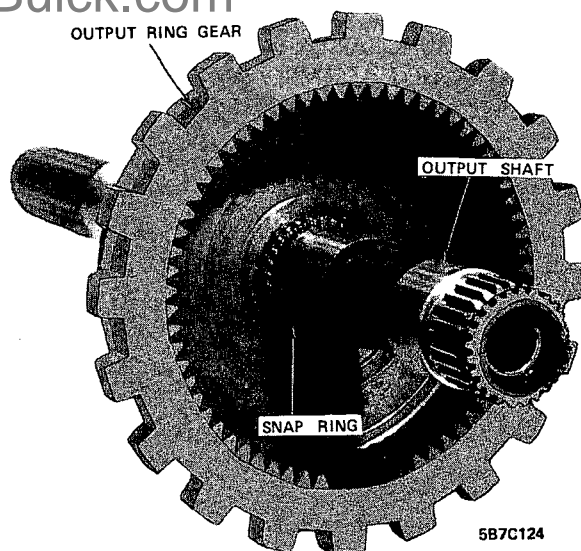

Figure 7C-66
4. Remove output ring gear to case needle bearing. See Figure 7C-67.